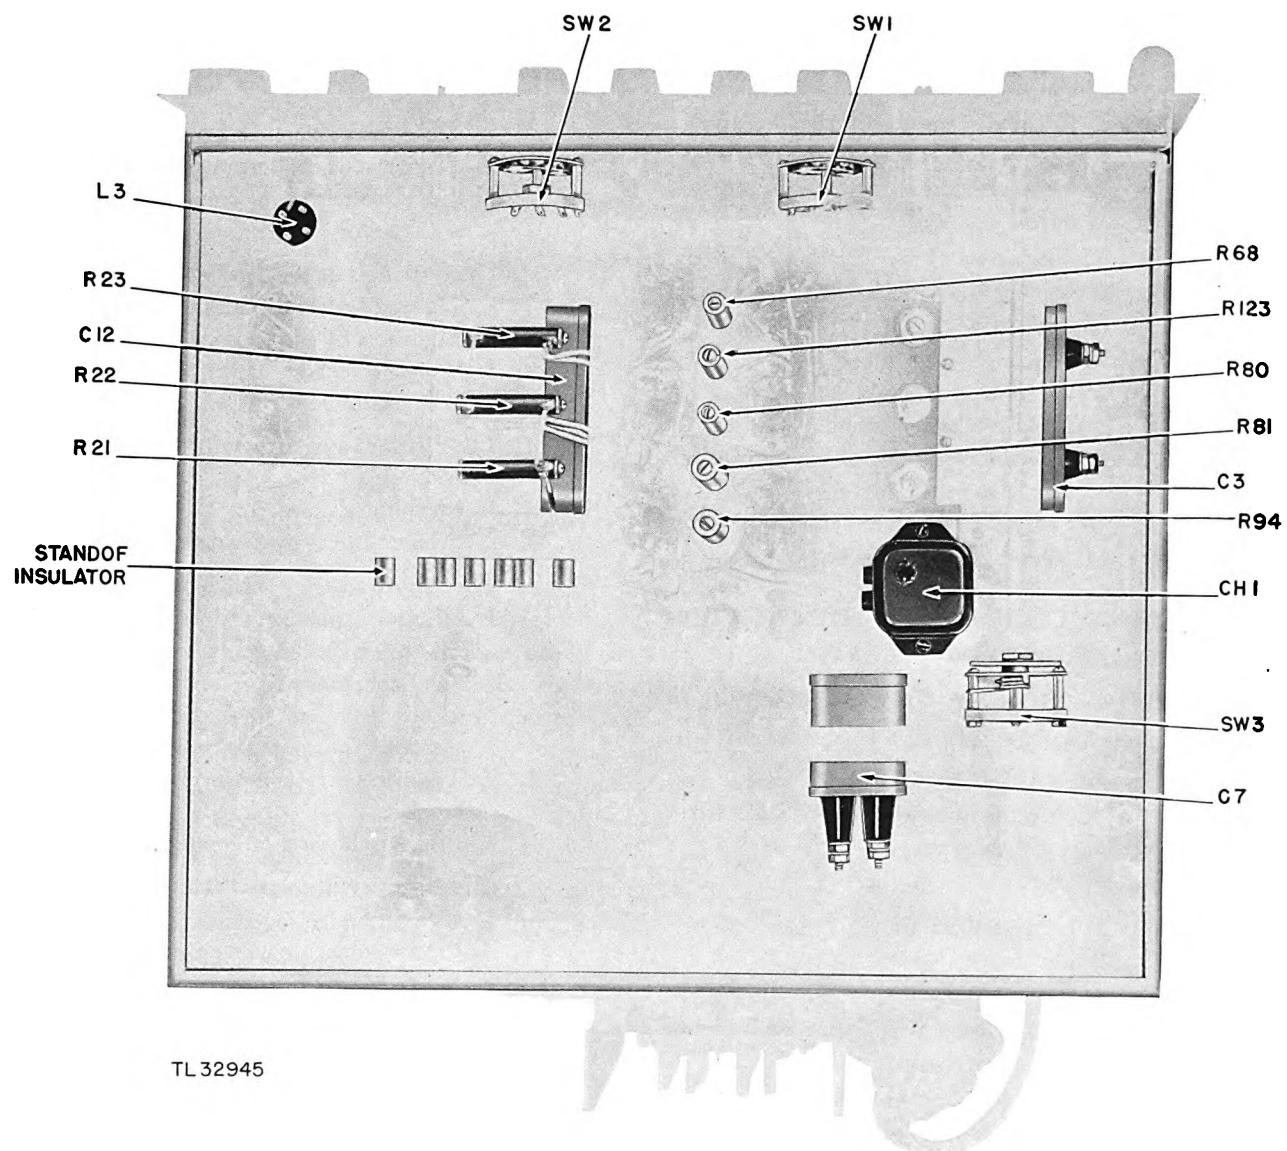

Figure 18. Underside of indicator chassis.
a. *Location.* See figure 18.
- (k) The "PPI" RANGE switch SW1 and "A" RANGE switch SW2 (fig. 18) for:
- (l) The CHALLENGE switch SW3 (fig. 18) for:
(n) Coil L3 (fig. 18) for:
(o) The coil CH1 (fig. 18) for: